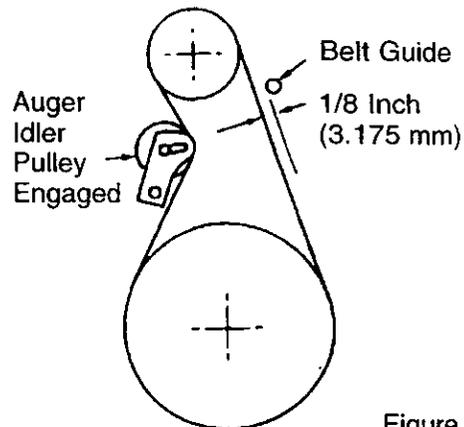

Figure 32
4. Measure the distance between the **belt guide** and **auger drive belt**. The **correct distance** is 1/8 inch (3.175 mm). See Figure 32.